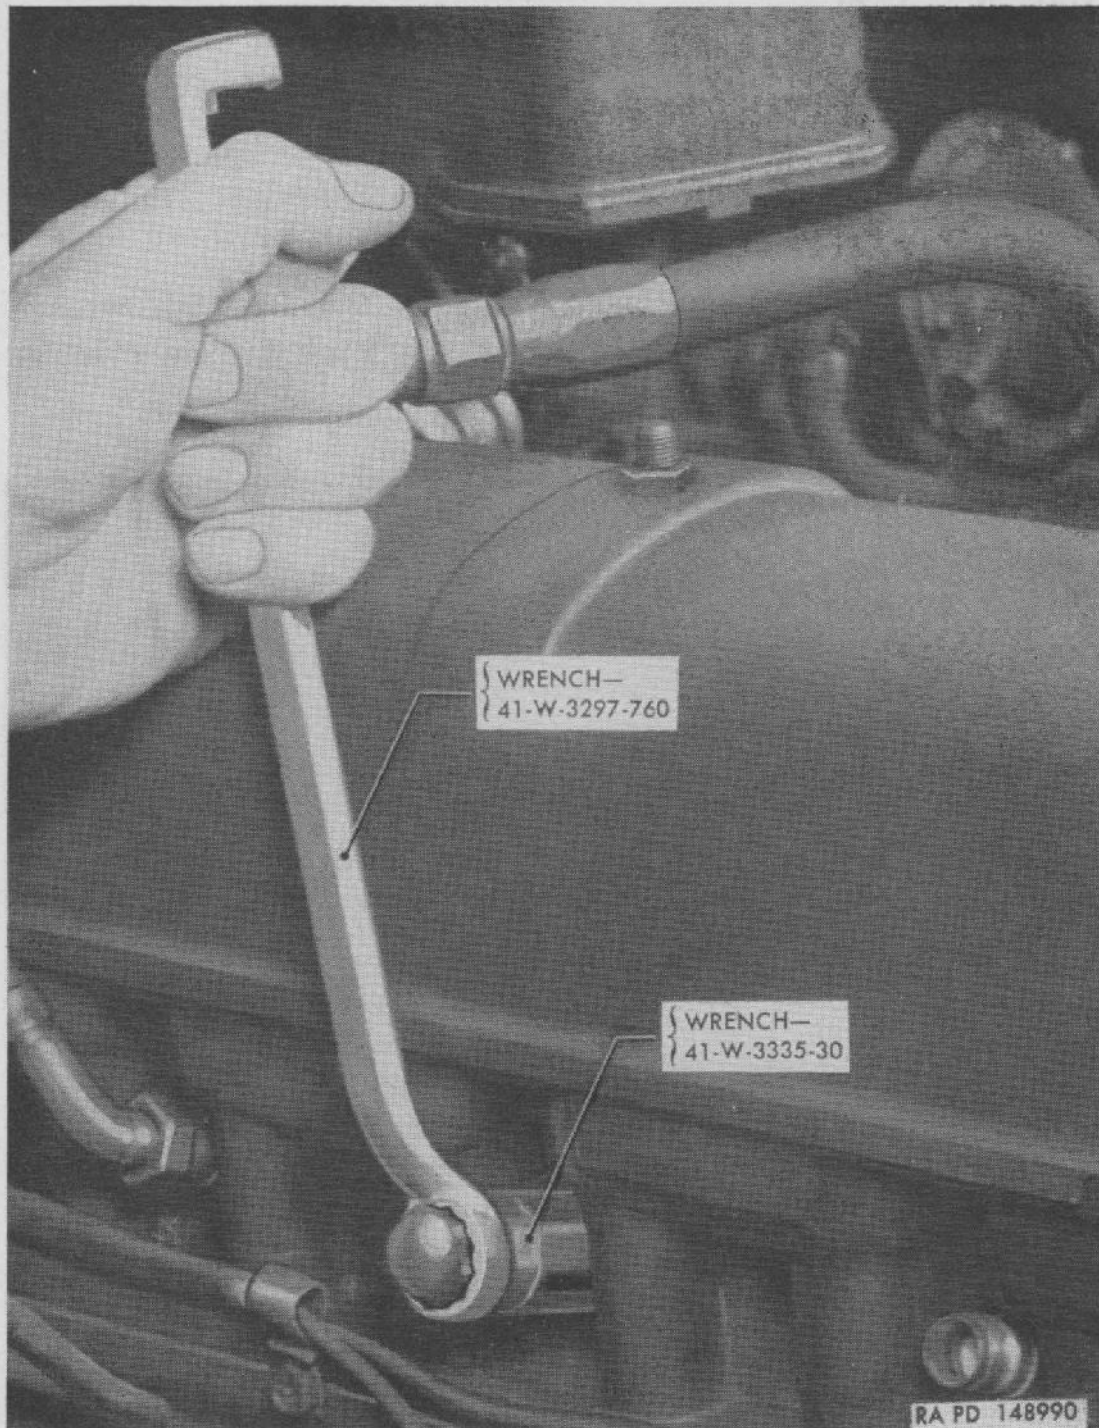

Figure 54. Removing spark plug from cylinder head.
- (2) Use spark plug wrench 41-W-3335-30 with wrench 41-W-3297-760 to unscrew spark plug from cylinder head (fig. 54).
- (1) Place new gasket on spark plug and thread plug into cylinder head. Be sure gasket does not drop off when positioning plug. Using spark plug wrench 41-W-3335-30 with spark-plug-conduit-nut wrench 41-W-3297-7601 tighten plug until it bottoms on gasket, then tighten one quarter to one half turn to partially compress gasket (fig. 54). Do not tighten enough to crush gasket.